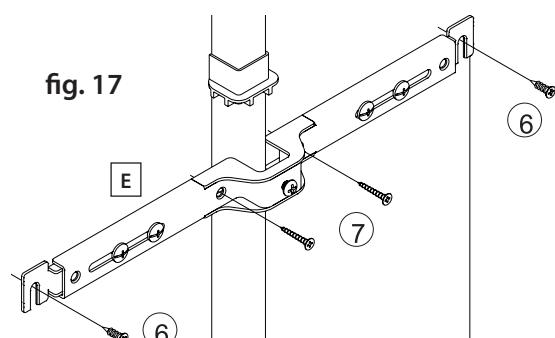

fig. 17
20) Attach the remaining door mount bracket(s) (E) as shown in figure 17. The pilot holes you drilled in step 13 should align. It is important that this door mount bracket fit closely under a basket so that it does not get in the way of storage.